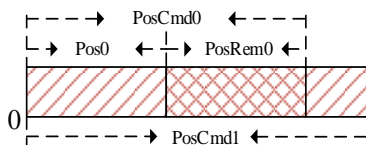

Fig. 12.15 Schematic diagram of absolute position command operation
③ The absolute position command takes the position value relative to the absolute zero (set by $Pn296$ and $Pn297$) as the reference point. As shown in Figure 12.15, the first segment position command is set to $PosCmd0$, and after running the pulse of $Pos0$, the second segment absolute position command $PosCmd1$ is inserted, then the total number of pulses run by the second segment position command, is $PosCmd1 - Pos0$, and the final operation position value is $PosCmd1$.